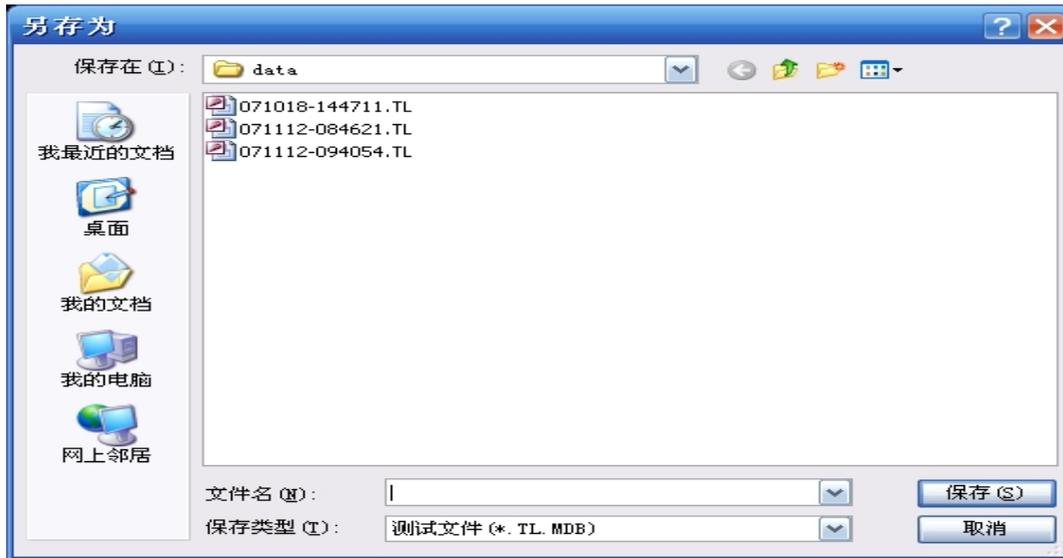

Figure 4-3b
③ Save, save the current test data; into the dialogue window, save test data process: enter the Save option will appear as shown in Figure 4-3b, there is a file name automatically generated file name, by the month, day - hours of composition; if it is the read file and then save the file, the file name defaults to the original file name. you can input the file name. Data file extension as above.